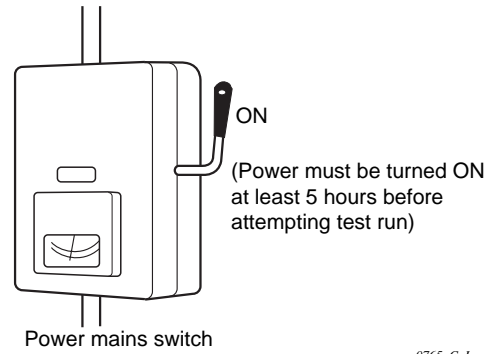

Fig. IV-22
- (1) All loose matter is removed from the cabinet especially steel filings, bits of wire, and clips.
- (2) The control wiring is correctly connected and all electrical connections are tight.
- (3) The protective spacers for the compressor used for transportation have been removed. If not, remove them now.
- (4) The transportation pads for the indoor fan have been removed. If not, remove them now.
- (5) The power has been connected to the unit for at least 5 hours before starting the compressor. The bottom of the compressor should be warm to the touch and the crankcase heater around the feet of the compressor should be hot to the touch. (Fig. IV-22)